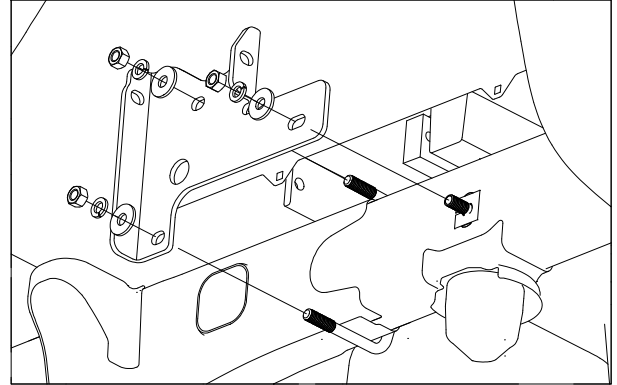
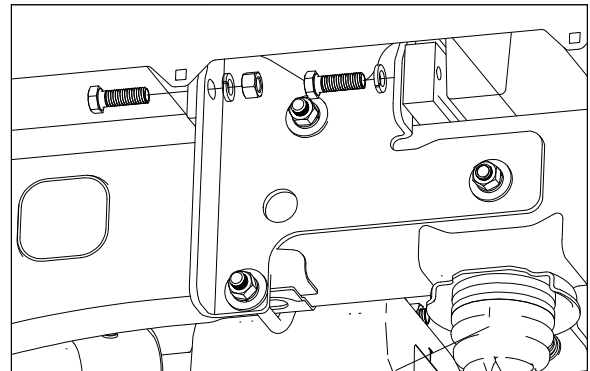

Figure C4: View looking at driver side wheel well.
Figure C5.
3. **Install the side plates.** Pass the side plates over the U-bolts and stud placed in the frame. Secure each side plate with flat washers, lock washers, and nuts, see Figure C4. Attach the front flange of the side plate to the front angle cross member by placing a 1/2" X 1-1/2" bolt through the front cross member, then secure to the side plate with a lock washer and nut. Next, attach the side plate to the rear bar by placing a 1/2" X 1-1/2" bolt with a lock washer through the side plate flange and threading it into the rear cross member, see Figure C5. Leave these bolted connections loose for the time being.